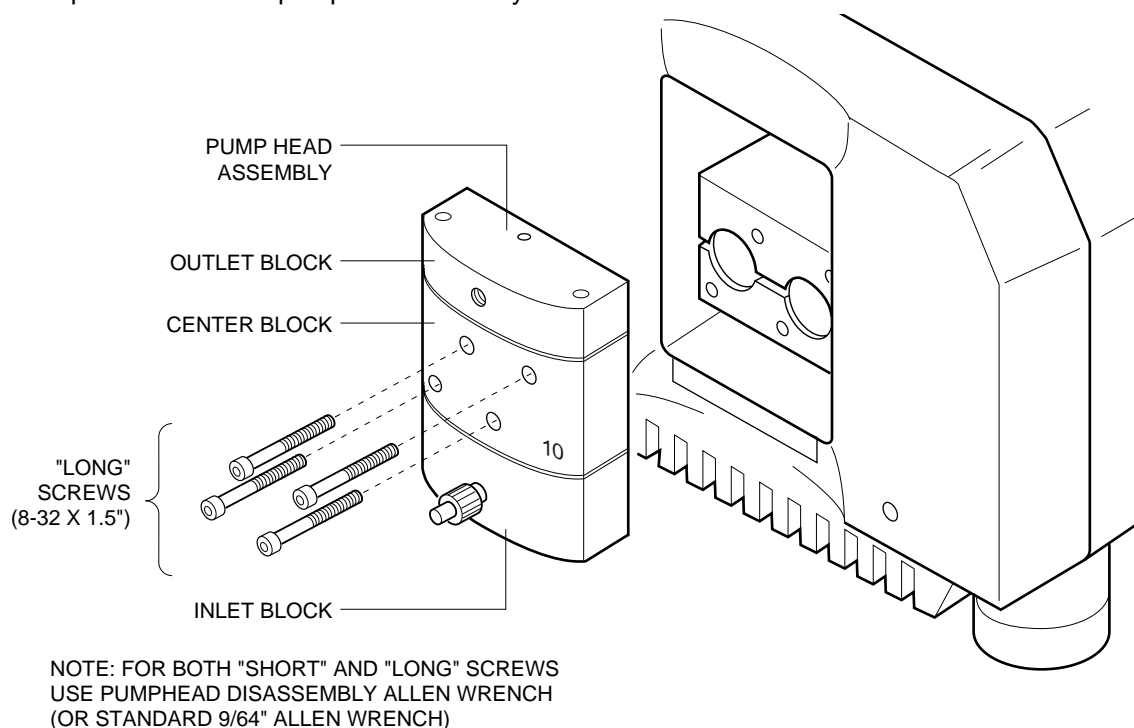

Figure 11-1. Workstation Pump Mechanism Parts
1. Replacing a piston seal. (Refer to Figures 11-1 and 11-2.)
- c. Using the pumphead disassembly Allen wrench (or any standard 9/64" Allen wrench), remove the four long screws on the face of the pumphead center block (see Figure 11-1). Pull the pumphead away from the Workstation.